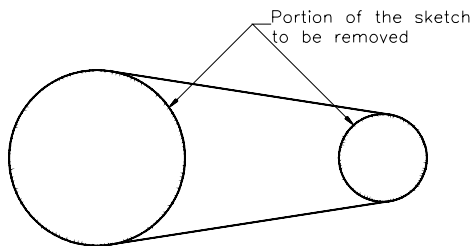
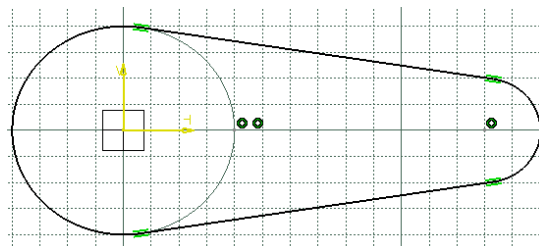

Figure 3-55 The unwanted portion of the sketch to be trimmed
Figure 3-56 The sketch after trimming the unwanted portion
- Trim the unwanted portion of the outer loop of the sketch using the **Quick Trim** tool, refer to Figures 3-55 and 3-56.
2. Click on the unwanted portion of the sketch, as shown in Figure 3-55. The final result is shown in Figure 3-56.